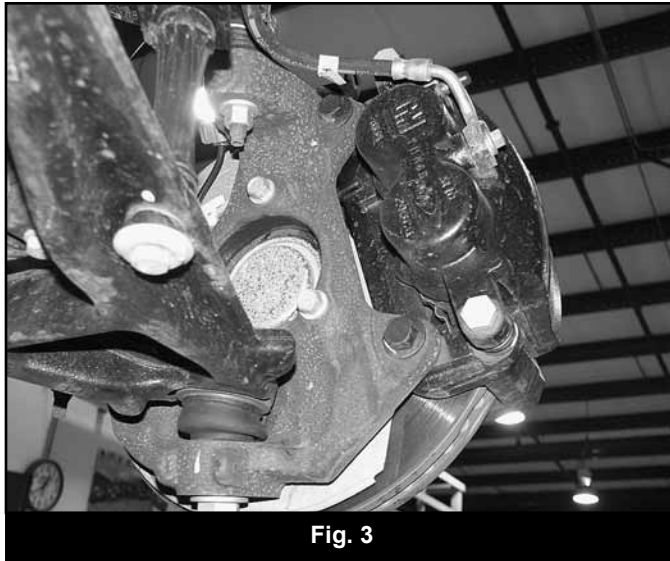

Fig. 3
8. Remove the two brake caliper mount bolts and remove the caliper assembly from the knuckle (Fig 3). Hang the caliper securely out of the way. DO NOT hang the caliper by the brake hose.